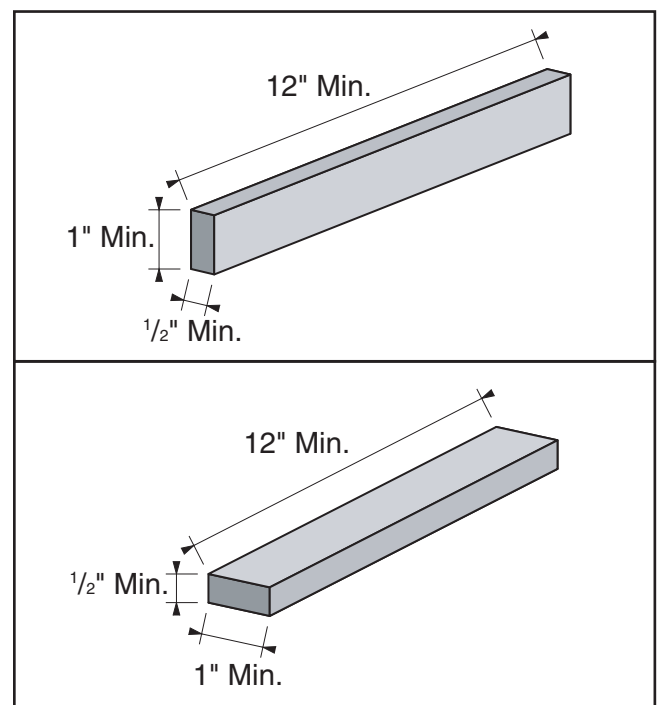

Figure 32. Minimum stock dimensions for the jointer.
- **Make sure your workpiece exceeds the minimum dimension requirements, as shown in Figure 32, before processing it through the jointer, or the workpiece may break or kickback during the operation.**